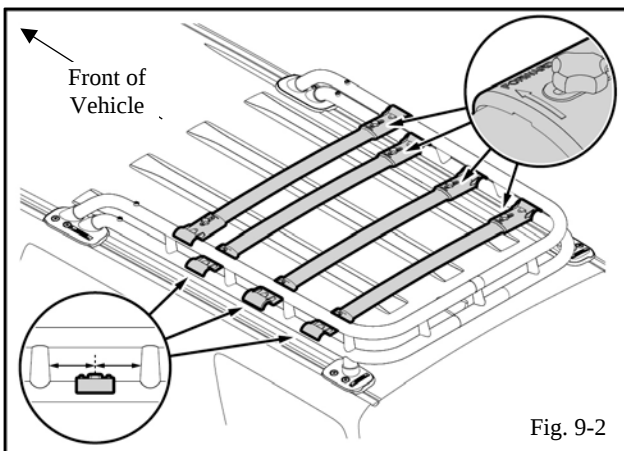

Fig. 9-2
- (b) Place the crossbars between the rails with the arrow pointing to the front of the vehicle (Fig. 9-2).
-  **NOTE:** “FORWARD” arrow is for front of vehicle orientation (Fig. 9-2).
- (1) Place top crossbar immediately rearward of the front stanchion (Fig. 9-2).
- (2) Place lower crossbars between the stanchions (Fig. 9-2).